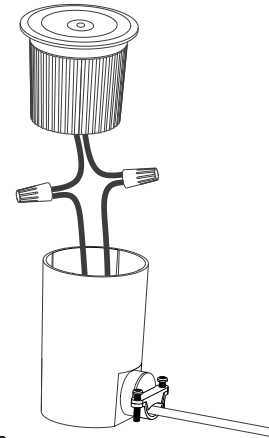

Fig. 2
4. Use waterproof wire nuts to connect the lamp wires with the power supply. (Fig. 2)